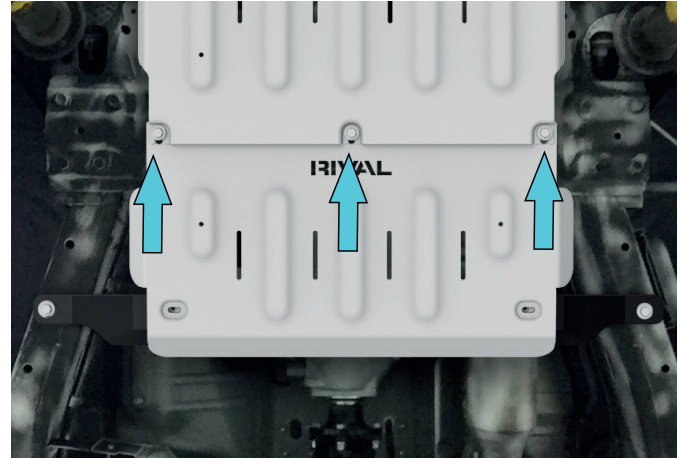

Fig. 3.2
3.2 If RIVAL transmission skid plate is installed: slide the front part of the transfer case skid plate under the transmission skid plate as shown in fig. 3.2.